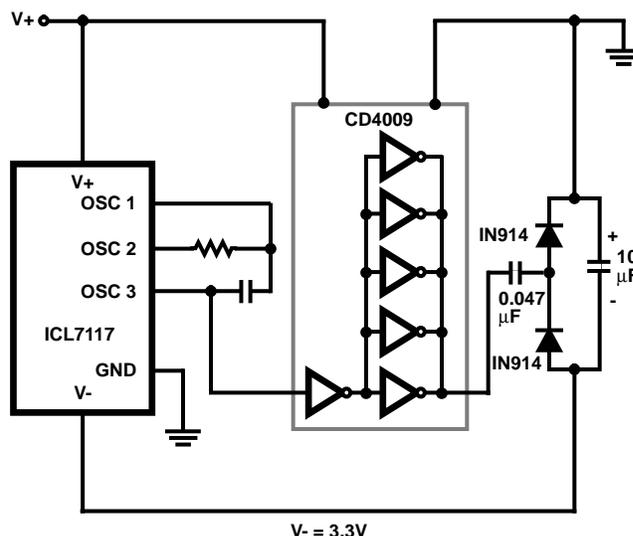

FIGURE 10. GENERATING NEGATIVE SUPPLY FROM +5V
3. The ICL7117 is designed to work from  $\pm$ 5V supplies. However, if a negative supply is not available, it can be generated from the clock output with 2 diodes, 2 capacitors, and an inexpensive I.C. Figure 10 shows this application. See ICL7660 data sheet for an alternative.